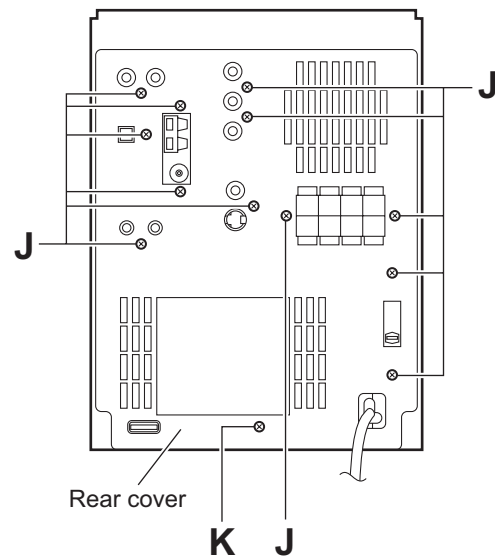

Fig.12
- (3) From the back side of the main body, remove the twelve screws **J** and screw **K** attaching the rear cover. (See Fig.12)
- (4) Remove the rear cover from the main body.